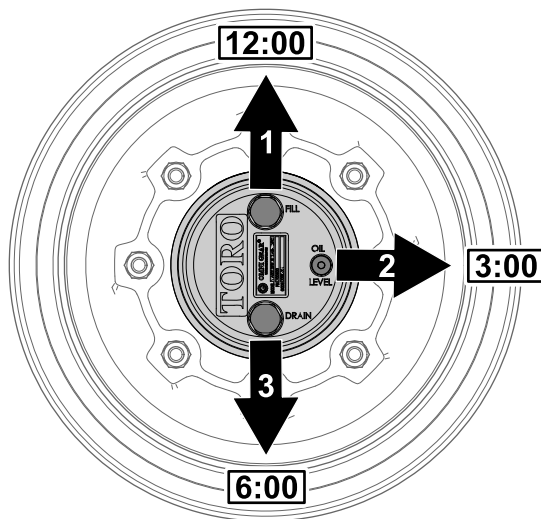

Figure 63
1. Park the machine on level surface, position the wheel so that the fill plug is at the 12 o'clock position, the check plug is at 3 o'clock position, and the drain plug is at the 6 o'clock position (Figure 63).
2. Remove the check plug at the 3 o'clock position (Figure 63).
1. Park the machine on level surface, position the wheel so that the fill plug is at the 12 o'clock position, the check plug is at 3 o'clock position, and the drain plug is at the 6 o'clock position; refer to Figure 63 in Checking the Planetary Gear-Drive Lubricant (page 48).